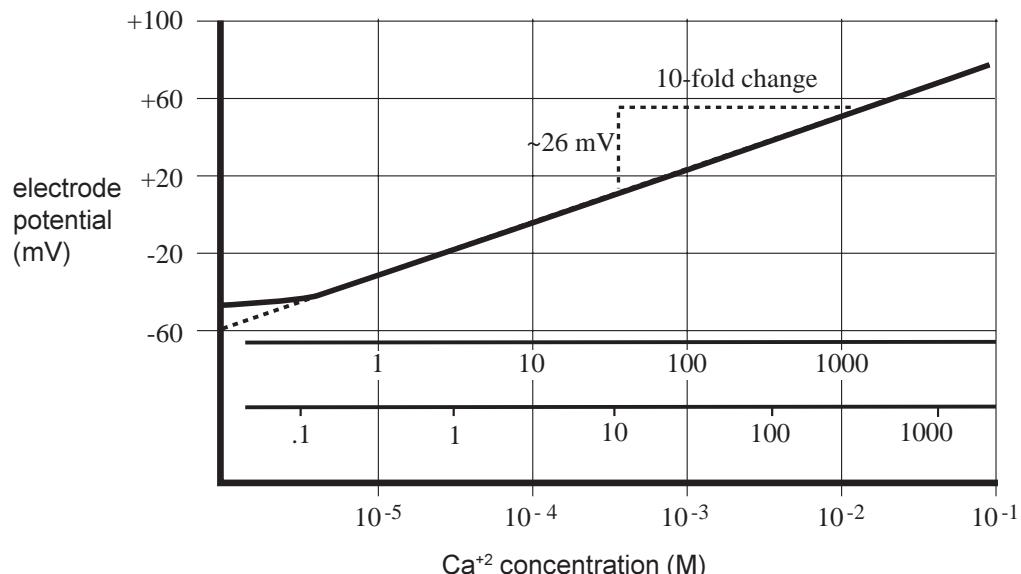

Figure 3
5. Using the semi-logarithmic graph paper, plot the voltage reading (linear axis) against the concentration (log axis). Extrapolate the calibration curve down to about 2.0 X 10⁻⁶ M. A typical calibration curve can be found in Figure 3.